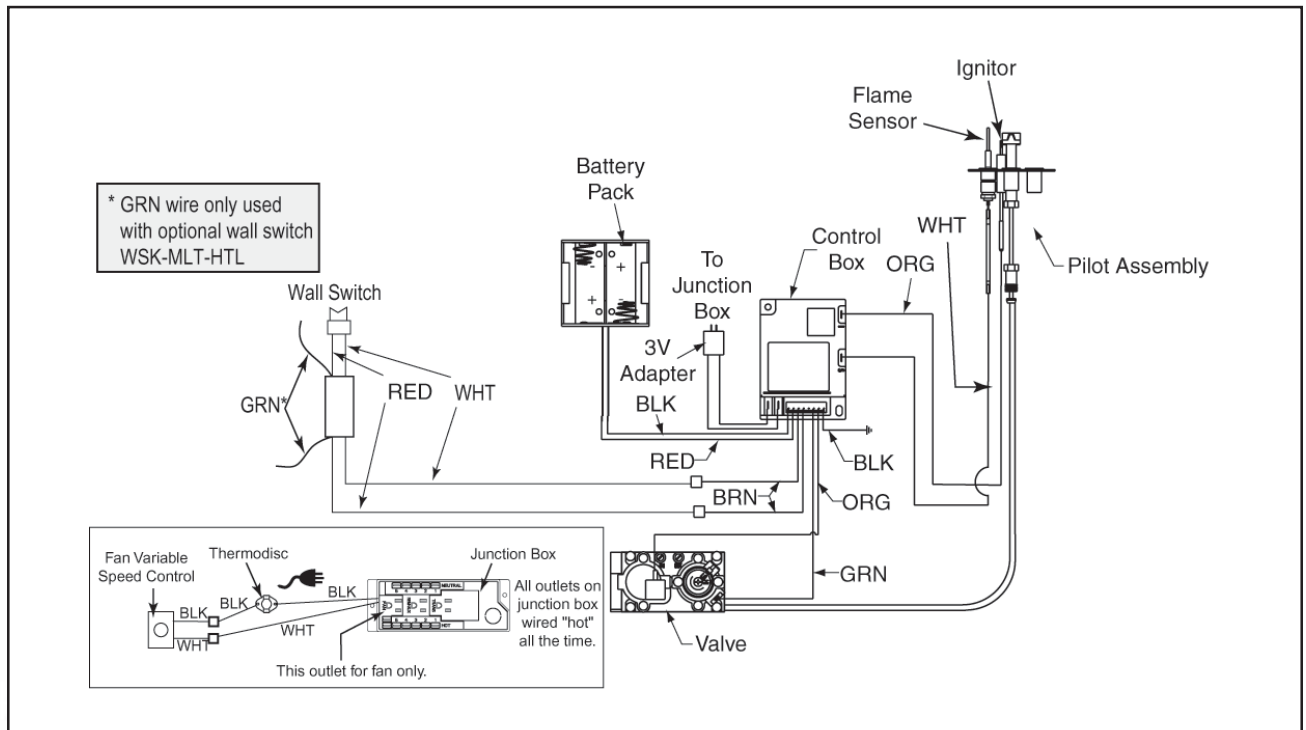

Figure 49 - Intermittent Pilot Ignition Wiring Diagram
- 1) This appliance requires a 110VAC supply to the appliance junction box for operation. A wiring diagram is shown in Figure 49.
The battery pack is supplied in the installation assembly. The battery pack should be connected as shown in Figure 49 and placed on the bottom pan of the appliance.